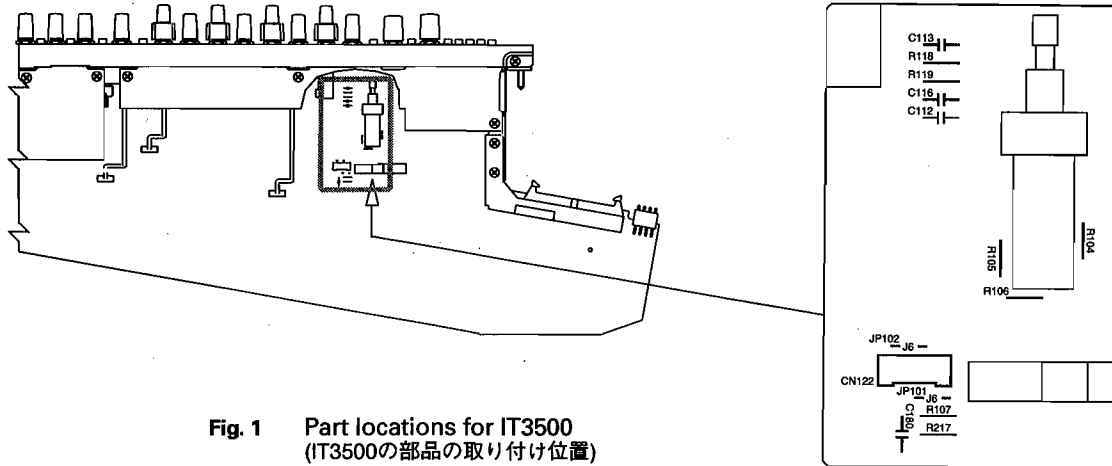

Fig. 1 Part locations for IT3500
- Modify the module circuit board, referring Fig. 1.